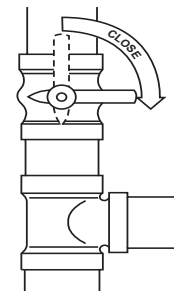

Fig. 16 – Close the External Manual Valve
2. Close the external manual gas valve (see Fig. 16).